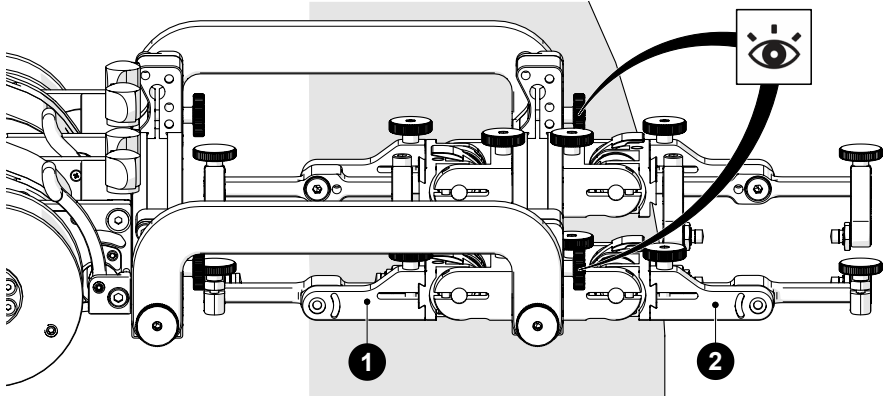

Fig. 260 - Position primary and secondary probe holders
2. Affix the probe holders (with attached wedges) to the low profile probe holder frame. On the frame bar, place the **2** secondary probe holders at the front and the **1** primary probe holders at the rear (Fig. 260).
3. Mount the low profile probe holder frame to the crawler (see “Swivel Mount” on page 65 for additional details). When mounting the low profile frame, ensure the attachment knobs (Fig. 260) are at the front (non crawler side).